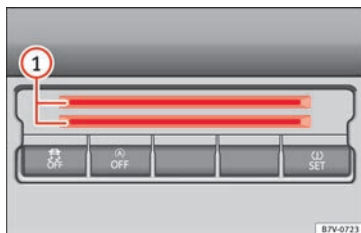

Fig. 179 Centre console, lower section: card compartment
To the bottom of the centre console there is a compartment » **Fig. 179** ① for coins, cards, car park tickets and similar items.